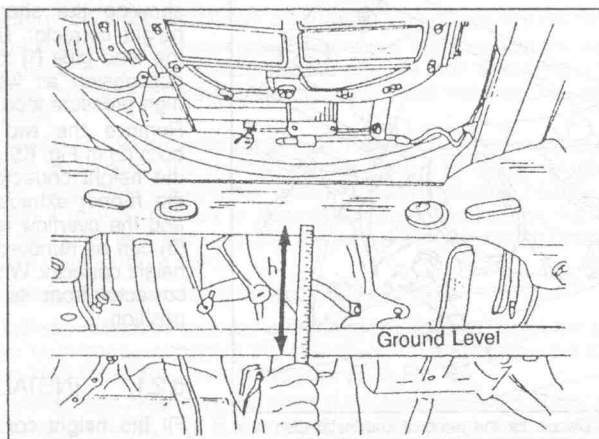

Fig. 6.7. — Measure the height "h" between the ground level and the lower face of the rear crossmember of the front axle.
- Measure the height between the front axle rear crossmember and the surface on which the vehicle is standing. This dimension should be 144 mm in the case of a vehicle with 195/70 tyres (149 mm with 205/60 tyres). The difference is due to the dimensions of the different tyres fitted to the model range. The measurement is carried out as shown in Fig. 6.7.